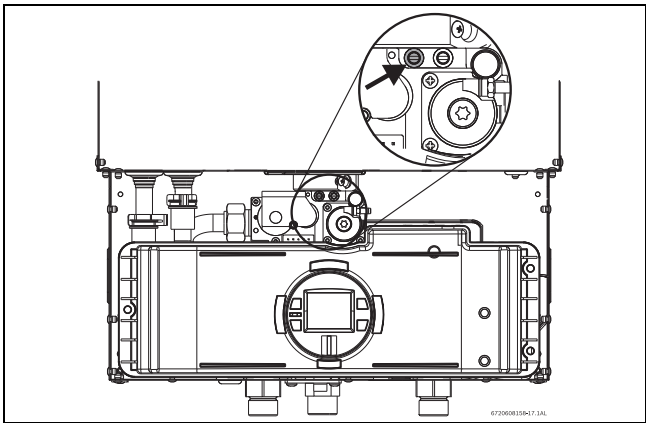

Fig. 47 Gas pressure test port (left tapping)
- ▶ Remove front cover and locate inlet gas pressure test port (see Fig.47).
- ▶ Loosen screw inside left test point fitting (do not remove) and connect manometer tube to test point (see Fig. 47).